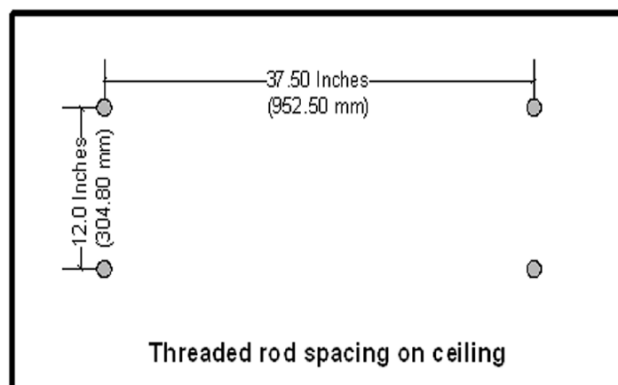

Figure 4
STEP 2: Use Figure 4 on Page 6 as a guide to mark out the ceiling anchor points with the correct spacing.